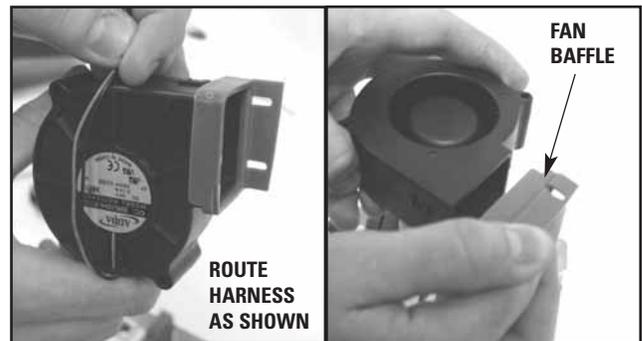

FIGURE 6.6
1. Route Fan Harness underneath fan as shown in Figure 6.6.
2. Install Fan Baffle onto fan as shown in Figure 6.6.